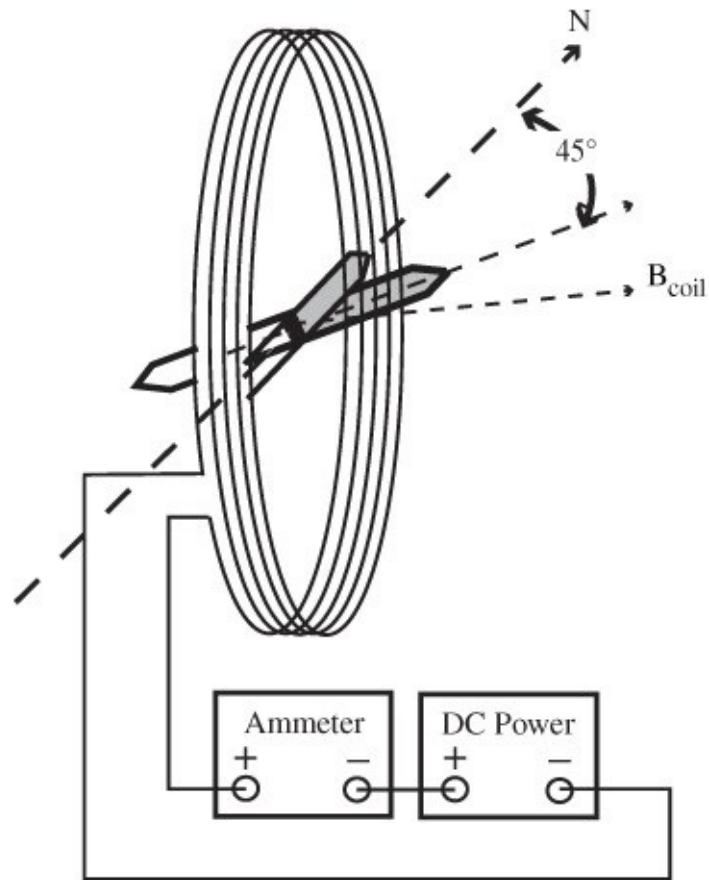
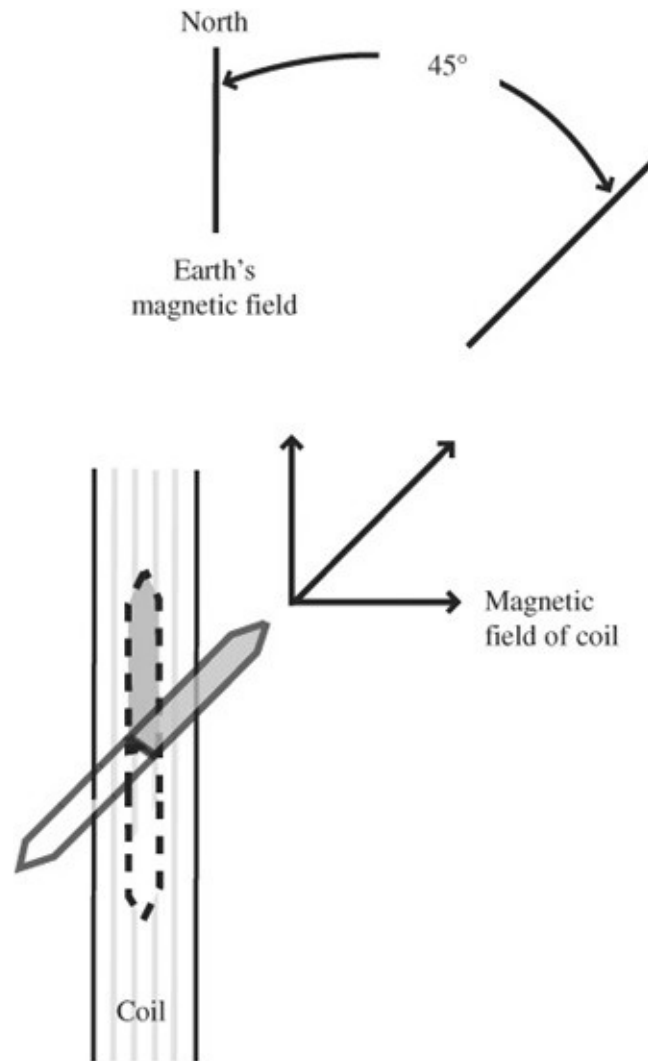

Figure 117-1 *Set up for measuring the Earth's magnetic field (side view).*
Figure 117-2 *Set up for measuring the Earth's magnetic field (top view).*
3. Support the coil using a ring stand or other support. The coil is oriented vertically with the plane of the coil facing east and west. The compass should be contained inside the plane of the coil, as shown in Figure 117-1. A top view of this is shown in Figure 117-2 for clarity. Notice the ends of the compass points to the turns of the coil.
5. After stripping the insulation from the ends of the coil, attach one end to the positive terminal of the ammeter and the other end to the negative terminal of the DC power supply. You can use jumper wires or attach the coil directly. Refer to Figures 117-1 and 117-2 for the appropriate connections.